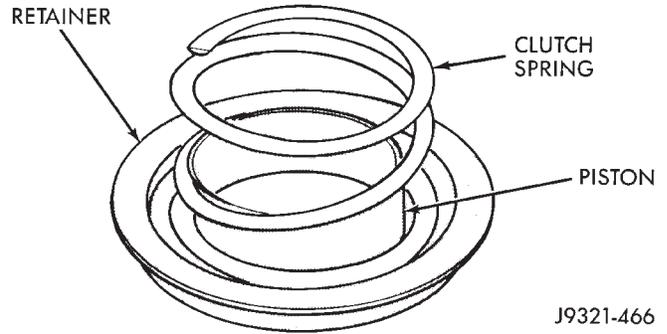

Fig. 178 Clutch Piston Spring Installation
- (5) Position spring in clutch piston (Fig. 178).